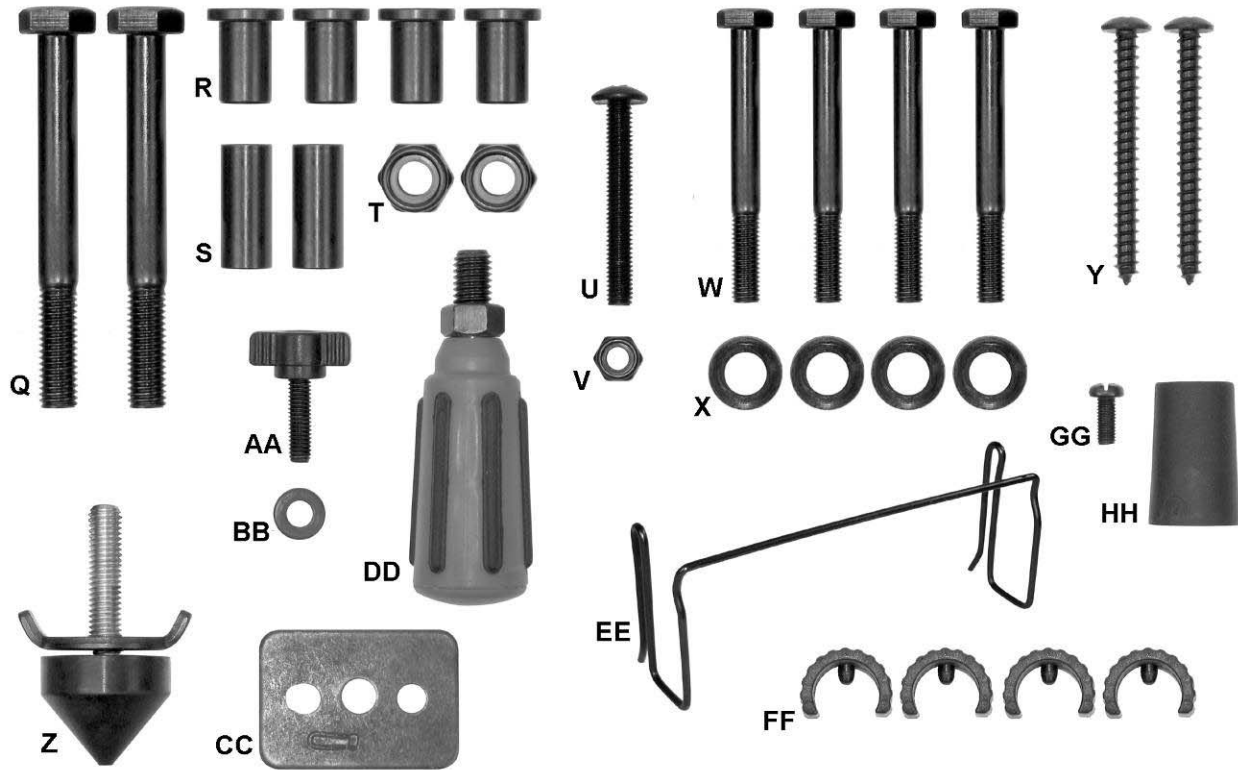

Figure 4 – Hardware
The following items are shown in Figure 4.
1. Square the saw on the mounting surface, and mark the location of the four 3/8 in. mounting holes (A).
2. Drill pilot holes in two diagonal corners (marked (A) in the mounting surface).
3. Mark an 11x11 in. square (B), centered between the four mounting holes (A).
7. Fasten the saw to the work surface using screws (Y, Fig. 4) provided.